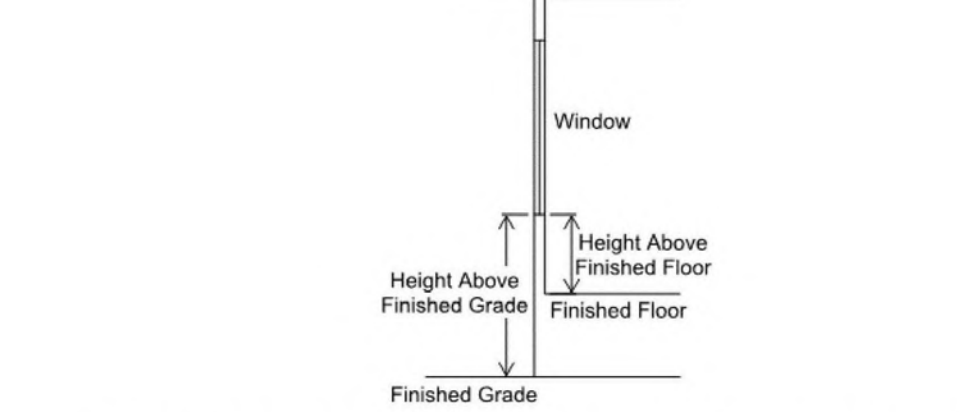

Figure 2: Window fall protection
3. Operable windows that are provided with opening control devices that comply with ASTM F 2090 (see Figure 2). (Note: When installed on required emergency egress windows, these devices must not reduce the net clear opening to less than the minimum required size or dimensions; see Tip Sheet 10 for more information.)
4. In dwelling units regulated by the IBC where the sill height of an operable window above exterior finished grade is more than 75 feet, provide window fall prevention devices complying with ASTM F 2090 (see Figure 2).